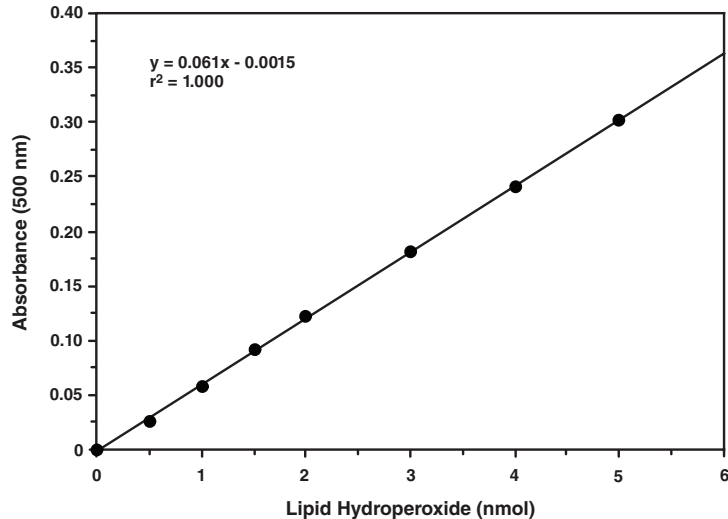
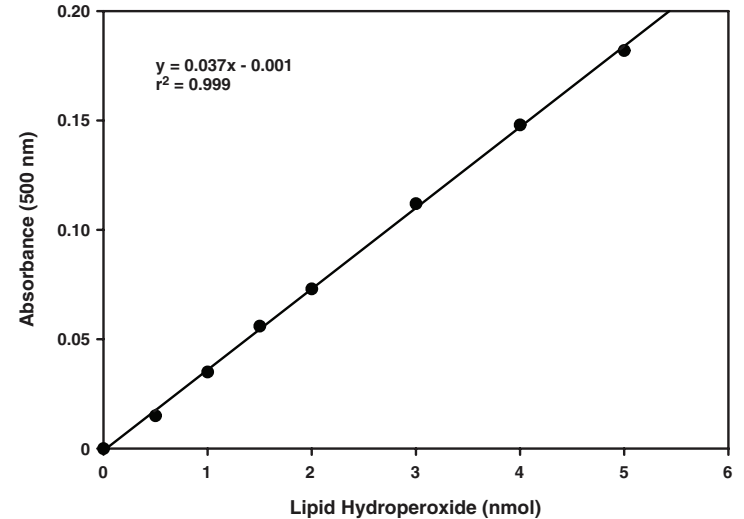

Figure 2. Typical standard curve for the spectrophotometric assay
Figure 3. Typical standard curve for the 96-well plate format
3. Plot the corrected absorbance of standards (from step 2 above) as function of final hydroperoxide value from Table 1 (see page 12). See Figure 2 below, for a typical standard curve using a spectrophotometric assay. See Figure 3, (page 15), for a typical standard curve using a 96-well plate format.